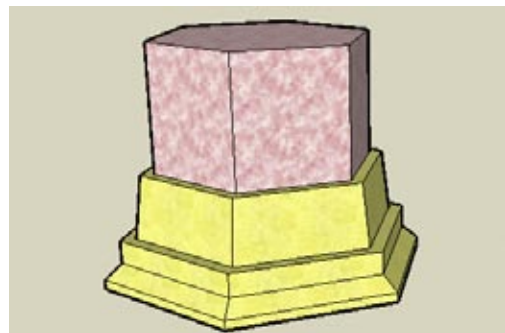

Figure 2-20
5. Erase the original Follow Me face and use the top of the column as the Follow Me path. The column base is shown in Figure 2-20.